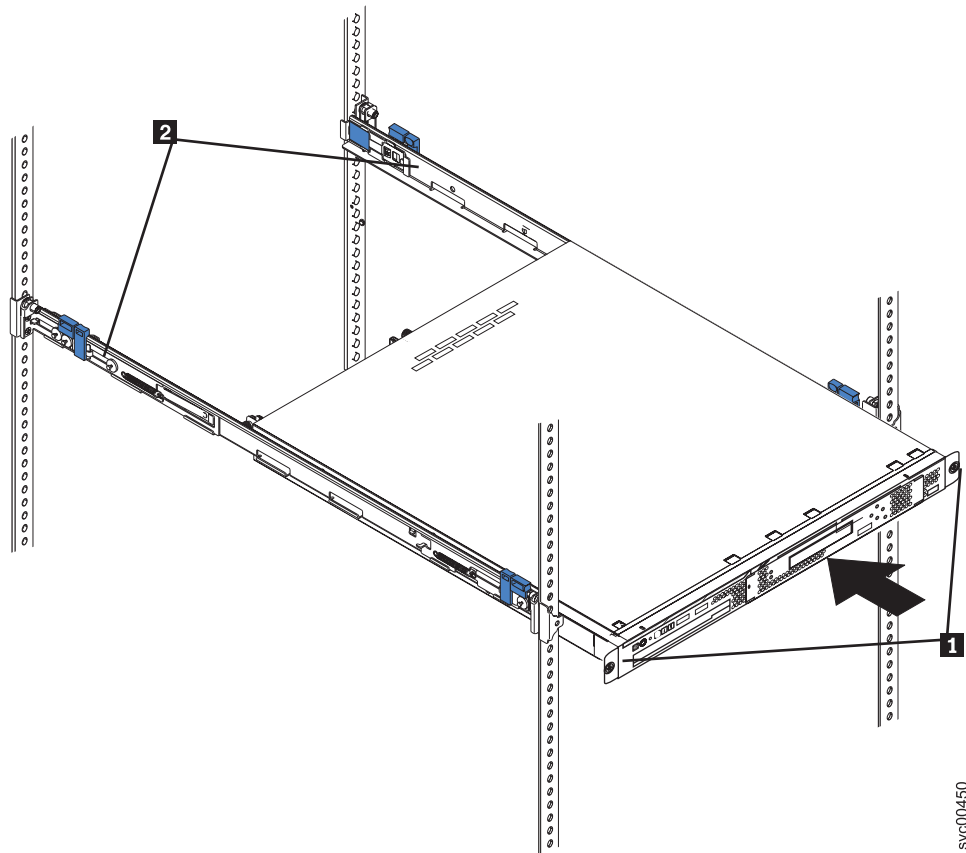

Figure 42. The captive thumbscrews that secure the node and the shipping brackets
1. Align the node on the slide rails and push the node fully into the rack. Secure the node to the front mounting flanges with the captive thumbscrews (**1** in Figure 42).